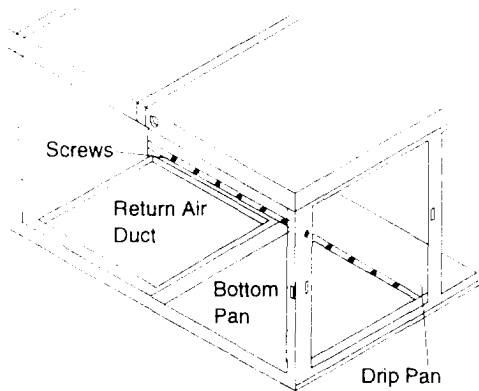

Figure 5: RA Duct and Screw Locations
- Refer to Figure 5 and remove the 8 screws for 15 ton or 11 screws for 20 and 25 ton units securing the drip and bottom pans along the bottom inside of the unit. Save the screws for installation later.